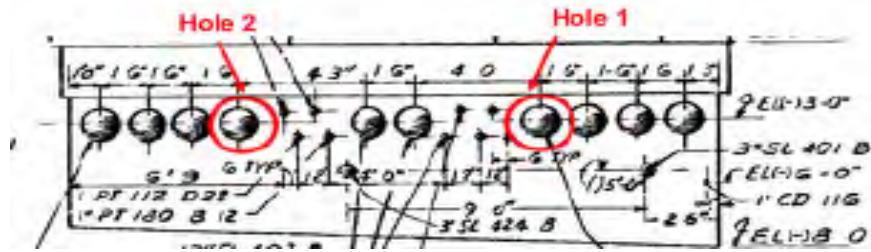

Figure 3: Pipe Trench Access Penetrations
1. Insert sprayer into access penetration. (See Figure 3 for pipe trench access penetrations configuration)